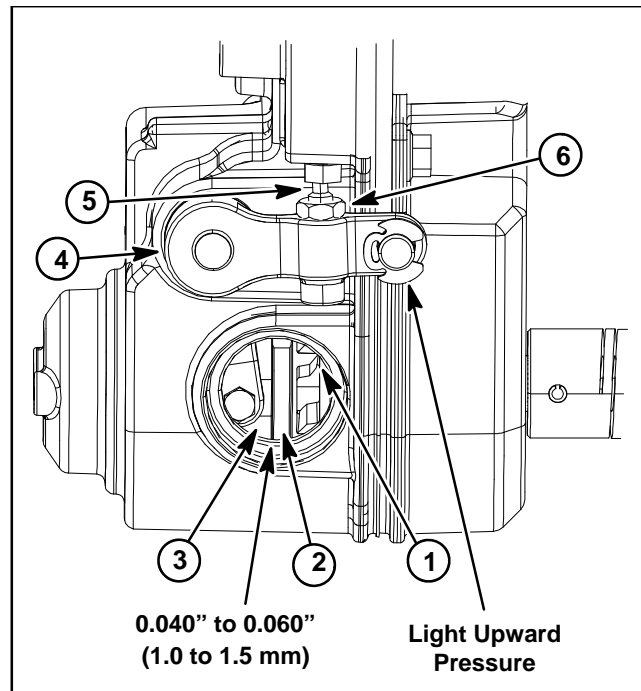

Figure 9
2. Remove rubber plug from front of transmission to allow viewing of reel drive clutch components (Fig. 9).
4. Loosen jam nut that secures set screw position in reel clutch lever (Fig. 9).